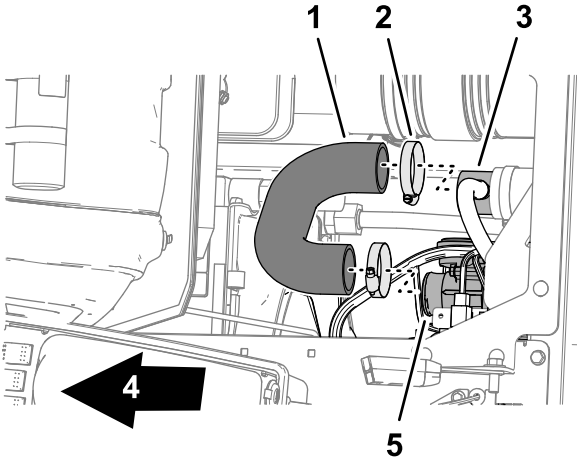

Figure 1
2. Below the passenger seat area, remove the 2 hose clamps that secure the air-cleaner hose to the vent T-tube and the throttle-body inlet (Figure 1).